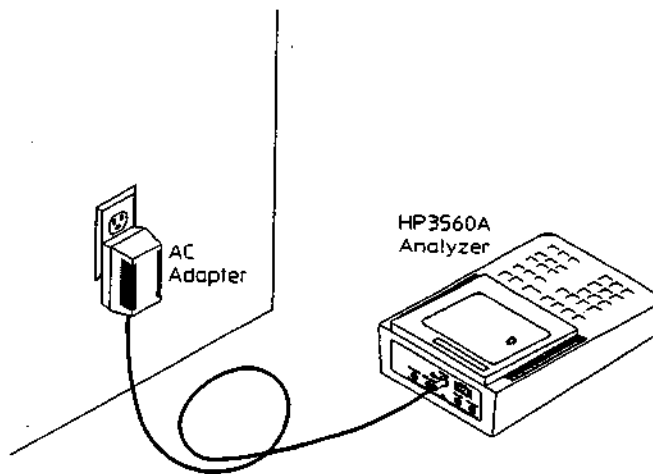

Figure 1-1.
3. Connect the ac adapter cable to the analyzer's battery charging socket labeled "ac adapter" located on the connector panel. See figure 1-1. The green LED beside the socket indicates the battery is charging.